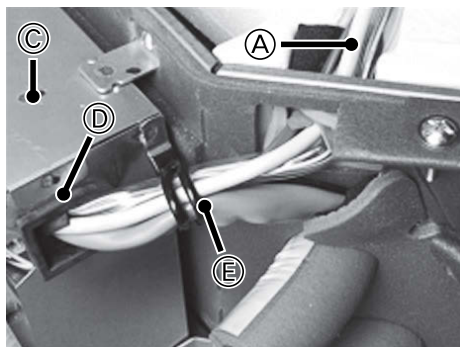

Fig. 4-3
- (3) Route the wireless junction cable through the electric component box BUSH, and then connect the cable to CN90 of the indoor controller board. (Fig. 4-3)
- (4) Secure the cables and wires with the clamp.